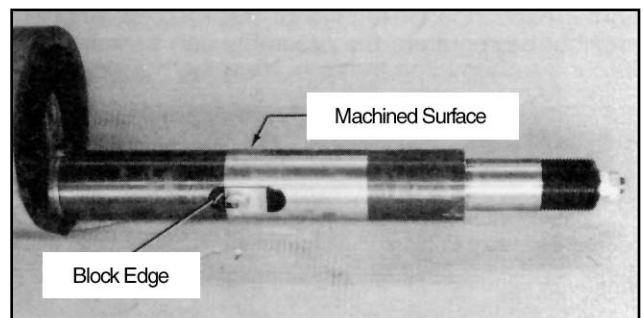

Figure 43
- After reassembly, adjust the block so that its edge is even with the machined surface edge of the cam shaft, Figure 43. The adjusting and locking nuts should be at the end of the adjusting screw.